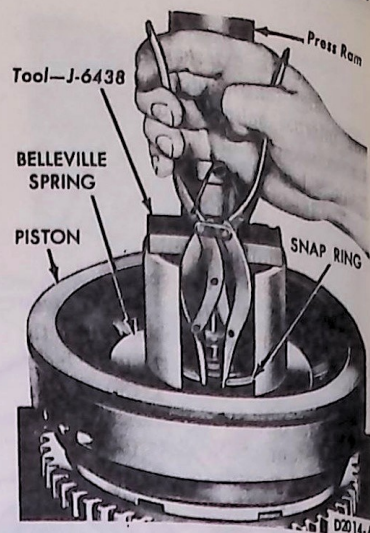

FIG. 54 Low-Splitter Piston Belleville Spring
13. Support the rear of the high-range clutch housing assembly in a press and compress the low-splitter clutch piston Belleville spring, using the tool shown in Fig. 54, then remove the snap ring. Carefully release the pressure on the Belleville spring to keep the inner edge of the spring from catching in the snap ring groove. Do
20. Place the assembly in a press with low-splitter clutch piston up, then install the Belleville return spring on the piston with the convex side up. Compress the spring carefully far enough to install the snap ring, using the tool shown in Fig. 54. Install the snap ring and release the pressure on the spring. Remove the assembly from the press. Do not allow the Belleville return spring to catch in the snap ring groove while compressing the spring.